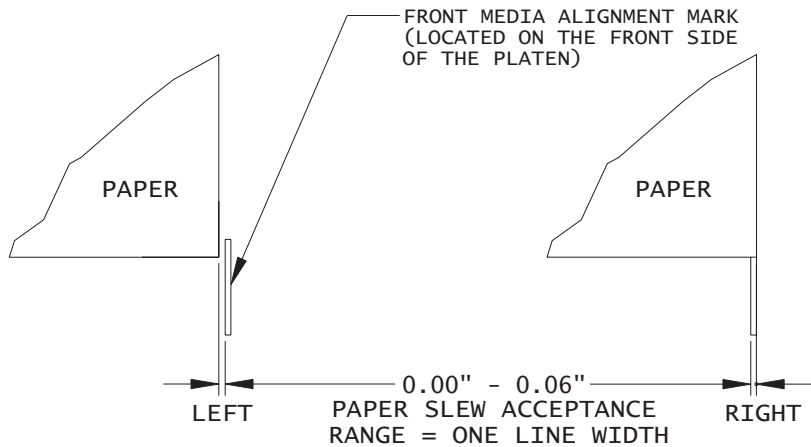

Figure 3-23. Paper Skew Acceptance Range for Front Media Alignment Mark.
2. The paper should be returning to its preloading location, preferably without any skew (gap). Engineering specification requires the skew to be within 0.00" - 0.06" (approximately one width of Platen's line). See Figure 3-23.